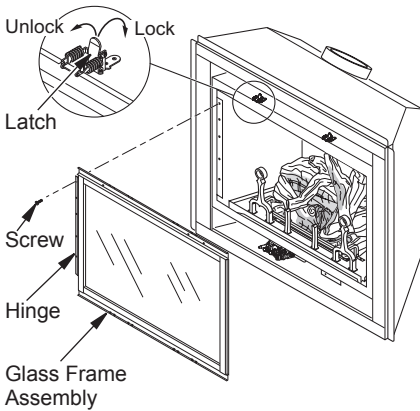

Figure 41 - Removing/Replacing Glass Door
2. Lift up on latches to unlock. There are two on top of firebox and two below firebox that hold glass door in place (see Figure 41, page 26).
3. While holding glass door to prevent it from falling and causing injury, remove five screws from hinge located on left side of door frame assembly (see Figure 41).
5. Close glass door frame. Lock latches by placing bar under tab on door and pushing down and back on latch (see Figure 41).